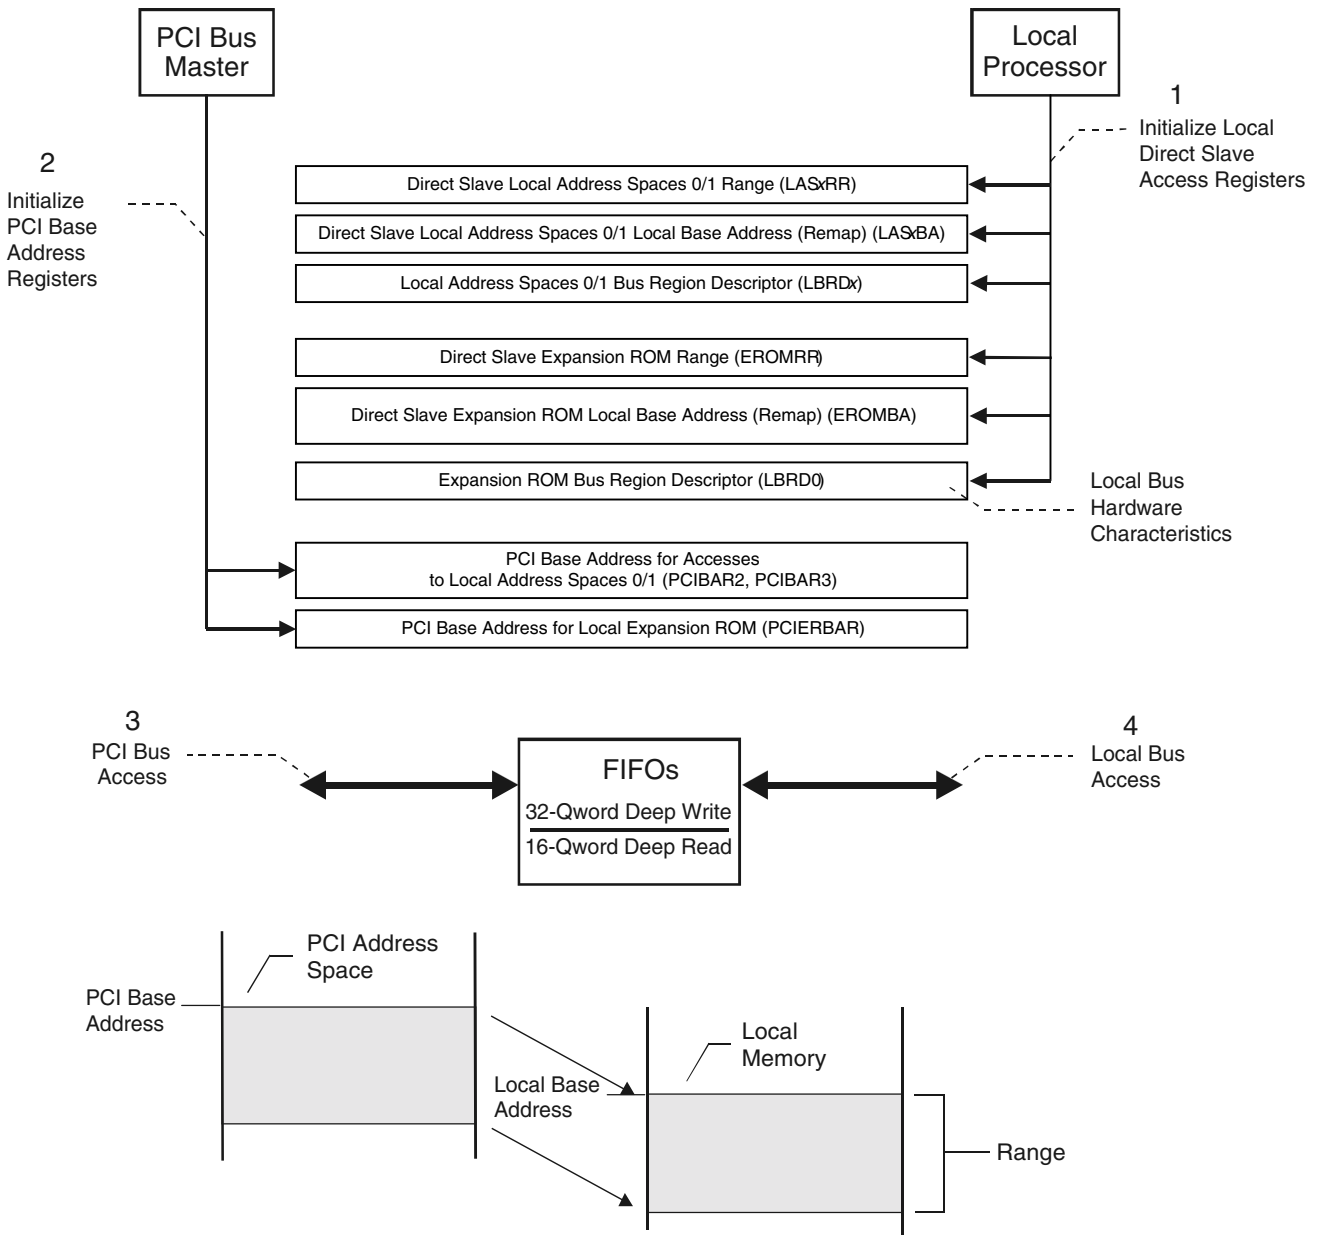

Figure 3-10. Local Bus Direct Slave Access
A fourth register, the Bus Region Descriptor register(s) for PCI-to-Local Accesses (LBRD0 and/or LBRD1), defines the Local Bus characteristics for the Direct Slave regions. (Refer to Figure 3-10.)
After a PCI reset, the software determines how much address space is required by writing all ones (1) to a PCI Base Address register and then reading back the value. The PCI 9656 returns zeros (0) in the “don’t care” address bits, effectively specifying the address space required. The PCI software then maps the Local Address space into the PCI Address space by programming the PCI Base Address register. (Refer to Figure 3-10.)